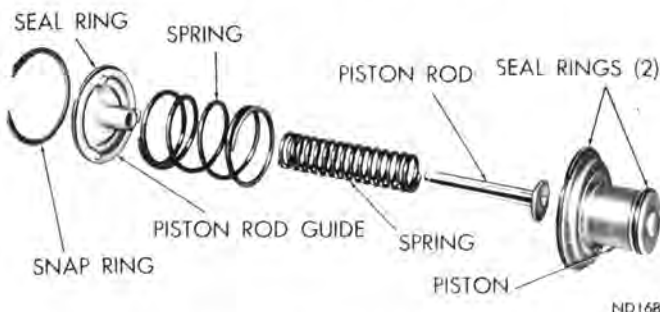

Fig. 94—Kickdown Servo
Figure 94 shows a disassembled view of the kickdown servo assembly. The larger outer spring shown in Figure 94 is not used in A-904 transmissions. Also,
(1) Carefully push servo piston into the case bore. Install piston rod, two springs and guide (Fig. 94). **The A-904 transmissions use one small spring only. Also, one small spring only is used in the maximum performance vehicles with A-727 transmissions.**
- (2) Compress kickdown servo springs by using engine valve spring compressor Tool C-3422, then install snap ring.